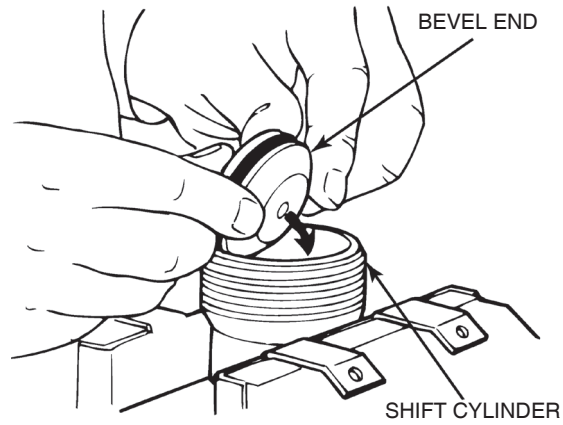

Figure 6.19
6. Install the piston and O-ring assembly into the shift cylinder, bevel end first. Push on the piston until it is against the bottom of the cylinder. Figure 6.19.